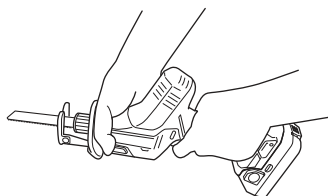

Fig. 16
- Be sure to hold the body from the top of the housing. (Fig. 16)